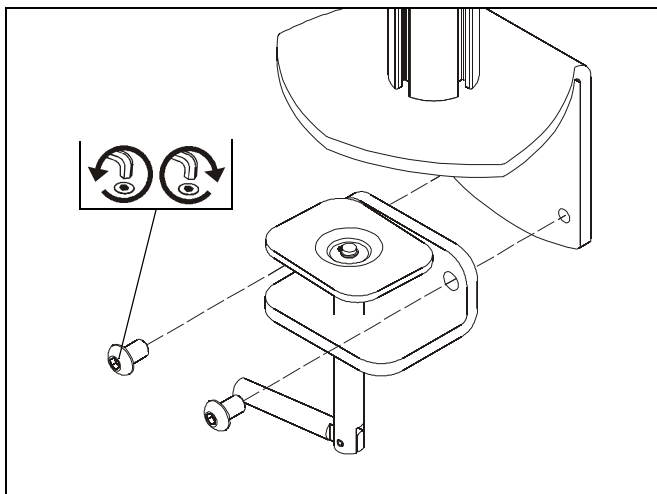

Figure 2
**NOTE:** If space is limited behind desk (i.e. against wall, etc.), remove clamp screw and attachment entirely and reattach clamp screw prior to Step 3! (See Figure 2)